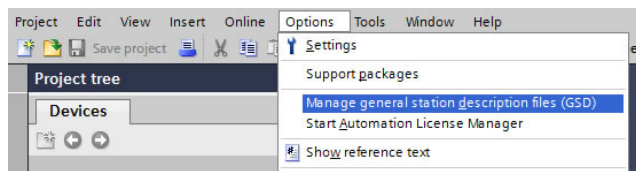

Figure 78: Install GSD File Menu Option
1. Open the TIA Portal project. Navigate to **Options...Manage general station description files (GSD)** as shown in Figure 78.